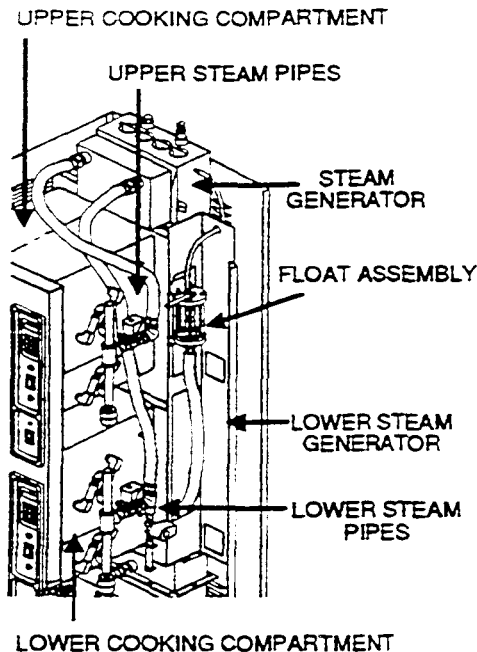
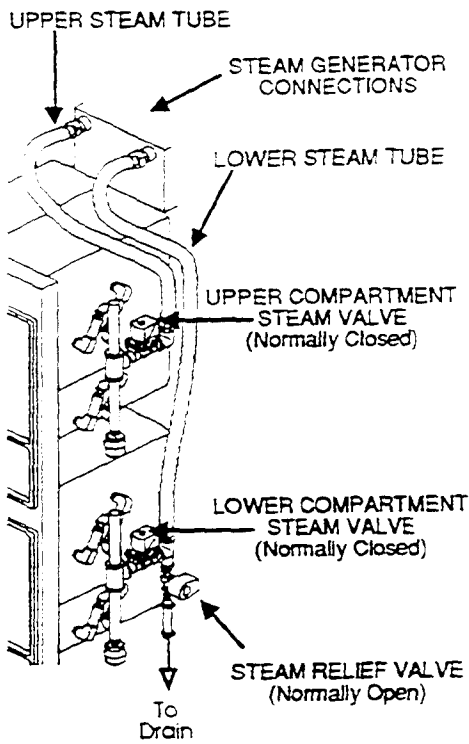

Figure 5-6. Single Steam Generator
Figure 5-7. Steam Flow Control Components - 24-CGA-10
- The gas-fired Model 24-CGA-10 has one steam generator component group. The steam generator supplies steam to either or both of the cooking compartments. (Refer to Figure 5-6)
Refer to Figure 5-6. One steam generator supplies steam to either or both cooking compartments. Although both cooking compartments draw steam from the same generator, each compartment operates independently during the steaming cycle. The Compartment Steam and Steam Relief Valves direct steam flow to either or both cooking compartments. Refer to Figure 5-7.